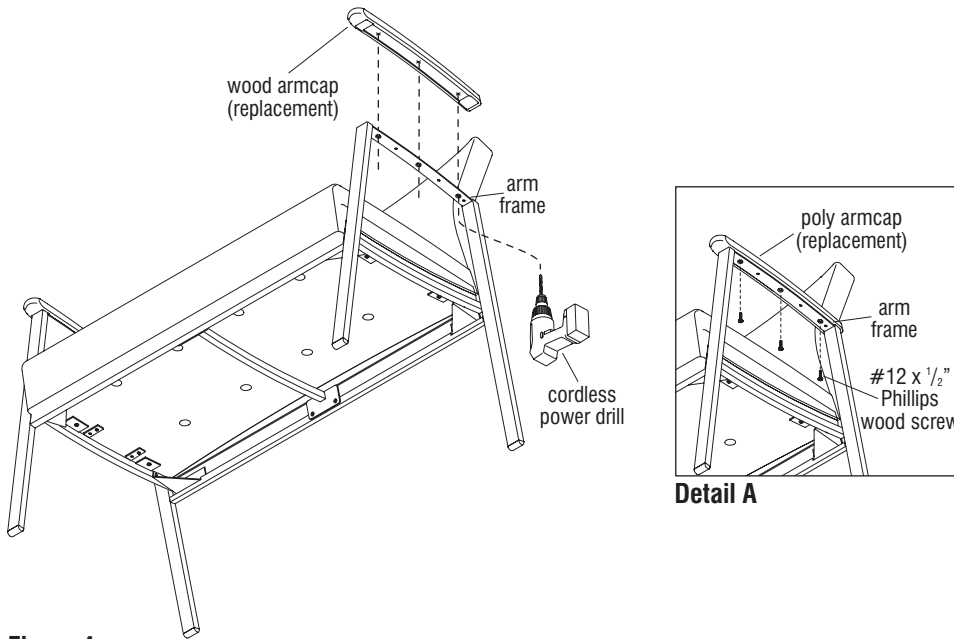

Figure 4
1. Position the replacement wood armcap onto the arm frame mounting location as illustrated with the round end of the armcap forward. Align the armcap straight, then mark the three mounting hole locations on the underside of the armcap (Figure 4).
2. Carefully bore a $\frac{5}{32}$ " pilot hole at the center of each marked location, on the underside of the armcap using a cordless power drill. Drill to $\frac{3}{8}$ " deep, taking care to not drill too deep, piercing the armcap (Figure 4).